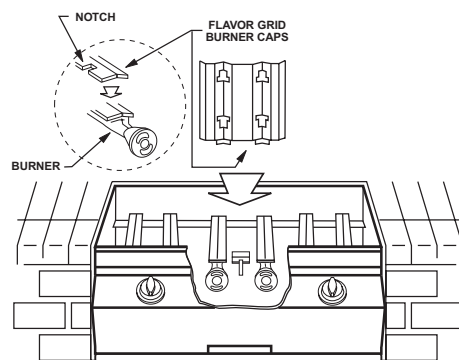

Figure 4 - Flavor Grid Diagram
a. Place the flavor grid burner caps directly on the burners. Make sure the notched end of the burner cap rests over the ignitor box (Figure 4). Center the grids over the burners with the open side up. This allows heat from the burners to be evenly distributed throughout the cooking area. Flavor grids heat and cool quickly, making your Fire Magic barbecue very responsive to the changes you specify in grill temperature.